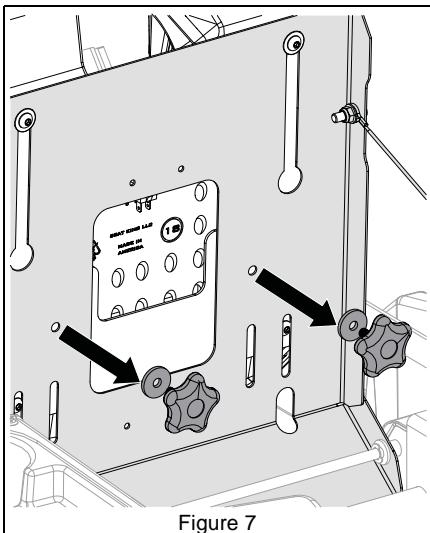

Figure 7
1. Remove and retain wing knobs and washers from seat plate. See Figure 7.